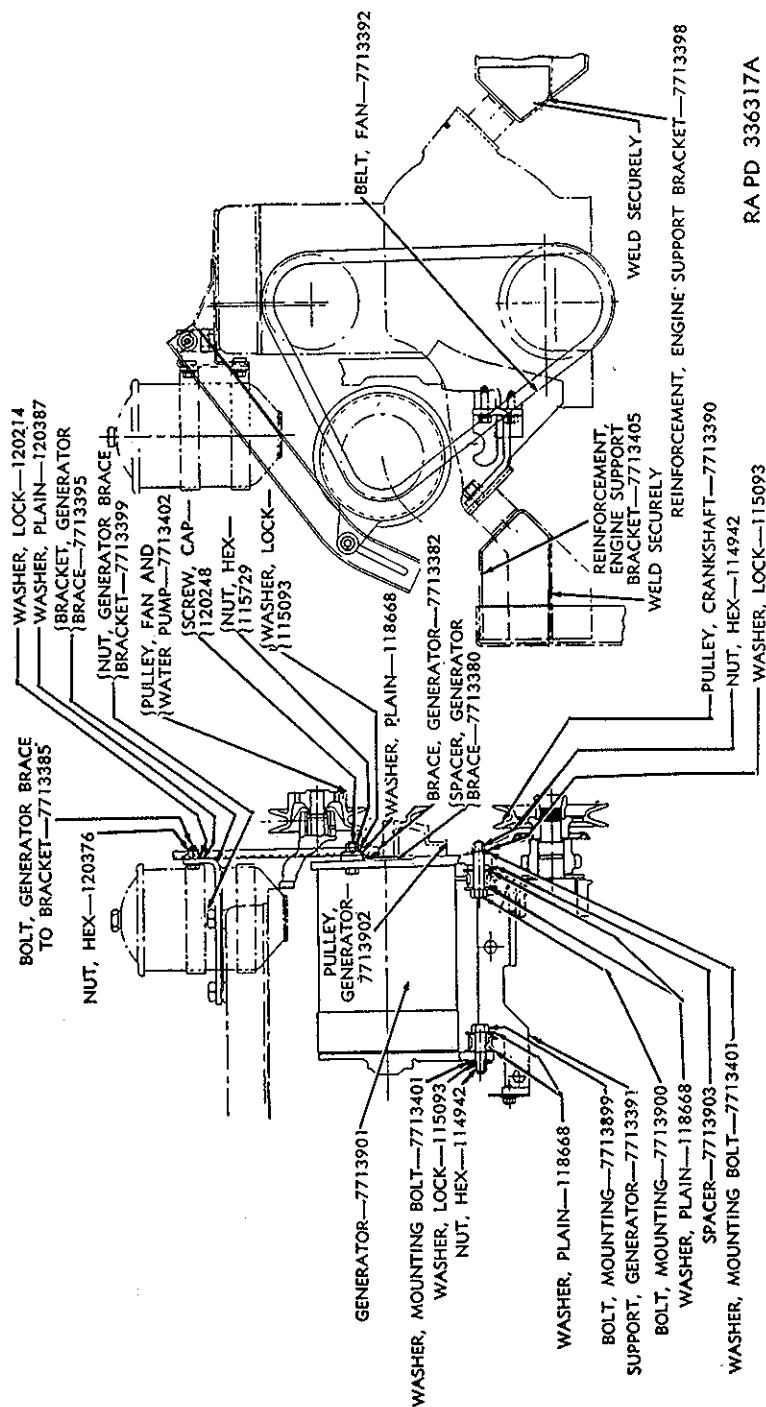

Figure 2. Generator and frame support installation.
(4) Slip the battery to starter switch cable 7713417 through the conduit 7713408 and assemble terminal B208945AA to the cable using a staking tool.
(5) Locate a point inside the vehicle on the dash panel approximately  $\frac{3}{4}$  inch toward the center of the vehicle from the filter lower mounting holes and approximately 1 inch above the joint of the toeboard and dash panel.
(6) Drill a 1-inch hole at this point and insert the end of the conduit 7713408 through the hole and lay the conduit in the corner where the floor pan is formed to cover the transmission.
(7) Position two clips 7713400 to secure the conduit to the floor, one clip at the battery end of the conduit and the other clip on the dash. Using the clips as templates, drill two  $\frac{1}{2}$ -inch holes. Install screws, nuts, and washers, and tighten securely.
(8) Install battery ground cable 7713389 and battery series connector 7713376.
(9) Install cranking motor 7713415 with bolts previously removed and tighten securely, leaving off the cylinder block bracket.
(10) Loosen engine stay cable. Remove the nut that secures the right side of the front engine plate to the engine mount and the two bolts that secure the left motor mount to the frame bracket.
(11) Place a jack under the front end of the oil pan, with a small block of wood between the jack and the oil pan, and raise the engine until the stud on the right motor mount is flush with the top surface of the leg on the engine plate.
(12) Place the generator support 7713391 in position on the side of the cylinder block, and fasten securely with three screws previously removed from same holes (fig. 2). The hole for the motor mount bolt may require filing due to differences in the Ford and Willys model vehicles.
(13) Remove the jack and reinstall nut on right motor stud securely.
(14) Reinstall the bolts securing the left motor mount to the frame. Readjust engine stay cable.
(15) Install pulley 7713902 on the generator and tighten securely.
(16) Press fan and water pump pulley GPW-8509-A from water pump shaft and install new pulley 7713402 (fig. 2). Press new pulley on pump shaft until pulley hub is flush with end of shaft.
(17) Apply gasket and assemble water pump to engine. Install engine crankshaft pulley 7713390, making certain that the key is in place.
(18) Raise the front end of vehicle by the bumper, to allow the axle to drop down, and to allow ample clearance for using welding equipment (fig. 2). Place engine support bracket reinforcements 7713405 and 7713398 approximately  $\frac{1}{8}$  inch inside the forward edge of engine support and electric weld securely all around.
(19) Install generator 7713901 and brace 7713382 with bolts, nuts, lock washers, flat washers, and spacers (fig. 2).